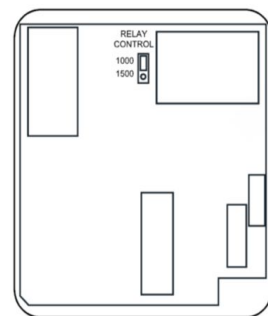

Fig 9
- To turn the VNM unit/s ON when the CO2 level rises over the pre set threshold of 1000 ppm or 1500 ppm, the threshold can be set via the “Dip Switch” located within the CO2 sensor, (fig 9).
- To turn the VNM unit/s ON and the fan speed to “Low” when the CO2 level rises over the pre set threshold of 1000 ppm or 1500 ppm, the threshold can be set via the “Dip Switch” located within the CO2 sensor, (fig 9).
- To turn the VNM unit/s fan speed from “Low to High” when the CO2 level rises over the pre set threshold of 1000 ppm or 1500 ppm, the threshold can be set via the “Dip Switch” located within the CO2 sensor, (fig 9). When the CO2 level is lower than the threshold, the VNM unit/s would be running on “Low” fan speed